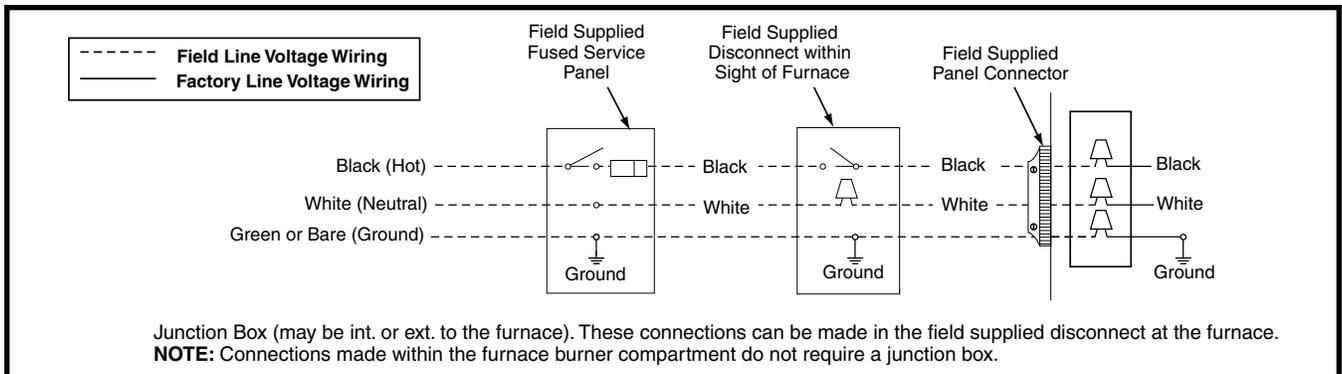
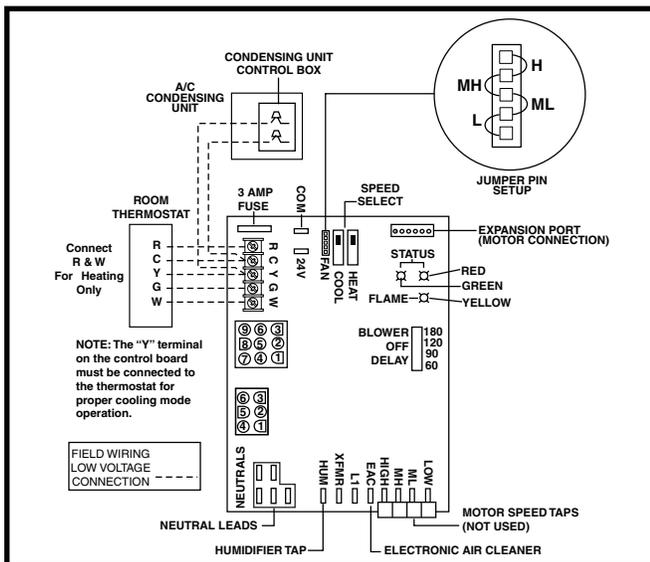

Figure 14. Line Voltage Field Wiring
Figure 15. Low Voltage Field, Four-wire Heating/Cooling Applications
- **An electrical disconnect must be installed readily accessible from and located within sight of the furnace. See Figure 14 or the wiring diagram label inside of the control door. Any other wiring methods must be acceptable to authority having jurisdiction.**
- **Proper line voltage polarity must be maintained in order for the control system to operate correctly. Verify the incoming neutral line is connected to the white wire and the incoming “hot” line is connected to the black wire. The furnace will not operate unless the polarity and ground are properly connected as shown in Figure 14.**
- The thermostat must be installed according to the instructions supplied by the thermostat manufacturer. Low voltage connections (24 VAC) from the thermostat are wired to the terminal strip on the integrated control in the furnace. Figure 15 contains the proper connections for heating only (two-wire) and heating/cooling (four-wire) applications. Recommended minimum wire gauge for thermostat wiring is shown in Table 2, \(page 18\).
- The six pin terminal marked “Expansion Port” (Figure 15) is not used in the single stage furnace as shipped from the factory. It is used for the furnace control board to communicate to a fixed speed or variable speed high efficiency motor that may be optionally installed. Please contact your distributor for the proper upgrade motor kit.
The operating sequences for the heating, cooling, and fan modes are described below. Refer to the field and furnace wiring diagrams: Figure 14, \(page 18\), Figure 15, \(page 18\) and Figure 19, \(page 24\) and Figure 20, \(page 25\).
- When the thermostat energizes the **G** terminal for continuous fan (without calling for heat or cooling), the indoor fan is energized on the selected FAN speed. See Figure 15, \(page 18\).